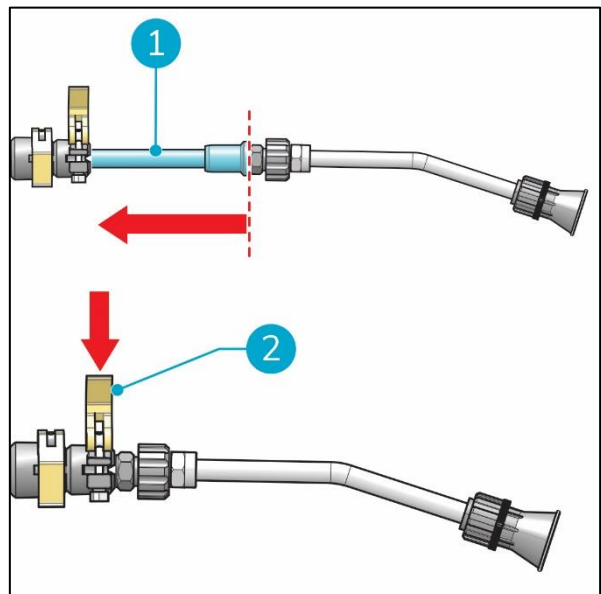

Figure 13
11. Push the adaptor and bend tube assembly into to the tube until the adaptor is completely inside the tube (Figure 13, pos 1).
12. Lock the yellow clamp (Figure 13, pos 2) to tighten the adaptor in the carbon tube.